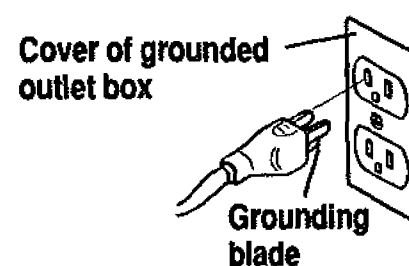

Fig. 2a
- The plug on the control box cord has three prongs. See Fig. 2a. The receptacle should have three corresponding holes.